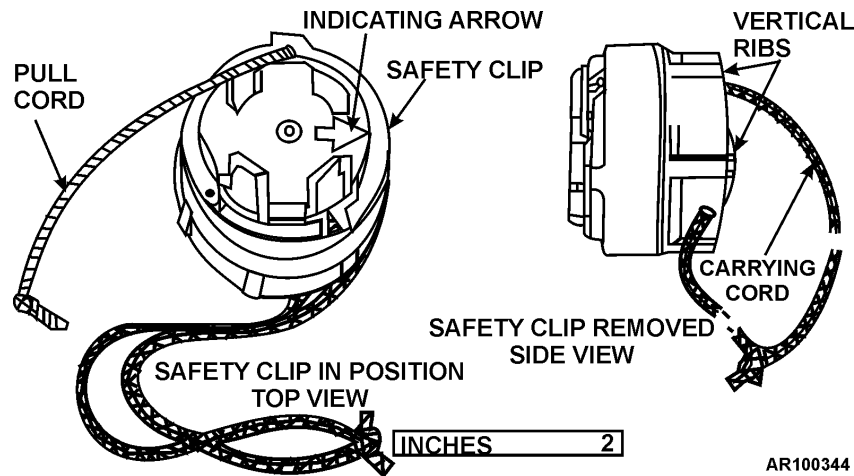

Figure 1-1. Mine, antipersonnel: M14 with integral fuze.
(1) This blast-type, high-explosive mine (fig. 1-1) has a cylindrical, all-plastic body. Six external body ribs provide strength and identify the mine in the dark. Pressure plate, slotted for insertion of steel U-shaped safety clip, has a yellow indicating arrow and is indented to accommodate mine and fuze wrench M22. Letters A and S on top of the fuze body signify Armed and Safe, respectively.
(2) A force of 20 to 35 pounds is needed to depress pressure plate which, in turn, depresses the belleville spring. The belleville spring snaps into reverse, driving firing pin into detonator M46; the detonator explodes main charge of 1 ounce of tetryl.